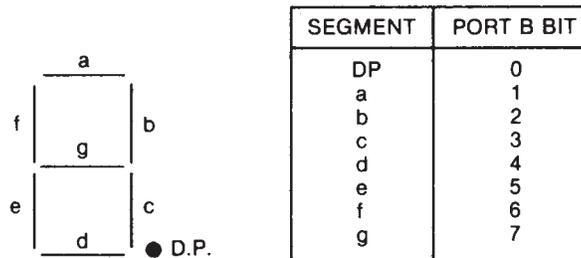

Figure 4-4
Both display 1 and display 2 are connected to port B as illustrated in figure 4-3. Only one display or digit is driven at a time. The display to be driven is controlled by bit 0 of port C. A 1 in this bit selects display 1, a 0 selects display 2. To light any segment of the display a zero must be placed in the corresponding bit of port B (see figure 4-4).
9. Press the WR key to transfer the data to port B. As shown in figure 4-4 , the 0's in bits 1,2,3,4 and 7 will make a 3 appear on display 2.